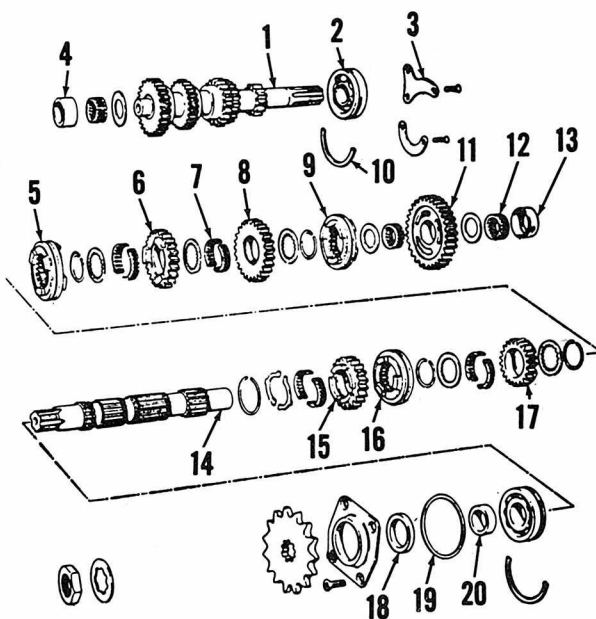

Fig. S7-16 — Component parts of shifter assembly.
**TRANSMISSION.** The five speed constant mesh unit may be removed after separating crankcase halves. Gears should be checked for damage and signs of wear. Check shift forks and shift fork grooves for burning. Low gear wheel (9—Fig. S7-15) and third gear wheel (5) are not interchangeable. Parts may be distinguished by 90 degree chamfer of gear engagement dogs of third gear wheel. Drive shaft bushing (13) and counter-shaft bushing (4) do not interchange. Drive shaft bushing is stamped with a "D". Install gear shifting selector arm (1—Fig. S7-16) facing side of gear shifting pawl holder (2) with five teeth (Not like illustration). Install kickstarter pawl roller (8—Fig. S7-17) with rounded end away from shaft (7).